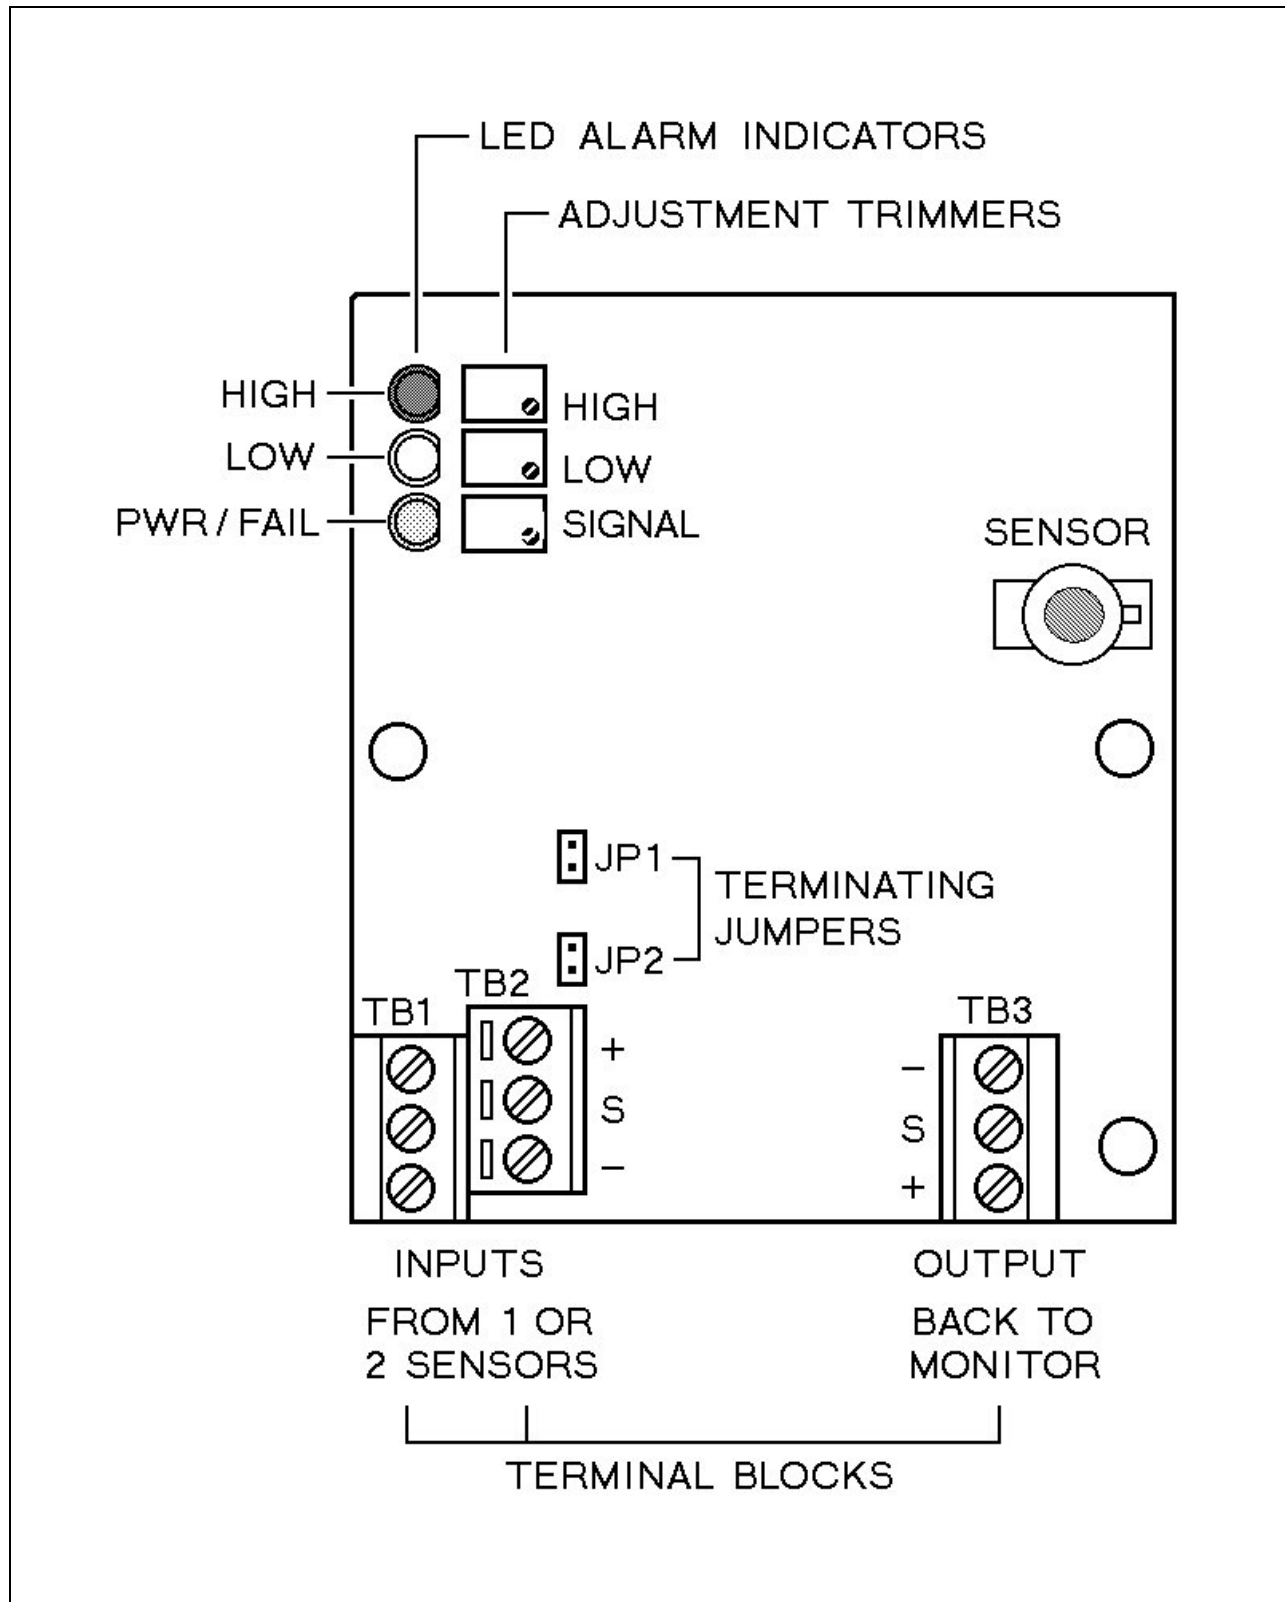

FIGURE 1: Internal Features of the AMC-1224, 1225 sensor module
- 10) INPUT TERMINAL BLOCKS: The input terminal blocks, labeled (-,s,+), are used to connect additional sensor modules. Each unused input terminal block must be locked-out using a terminal jumper, see Figure 1 – JP1, JP2.
All calibration adjustments are made using the three trimmers next to the single row of LEDs, see Figure 1.